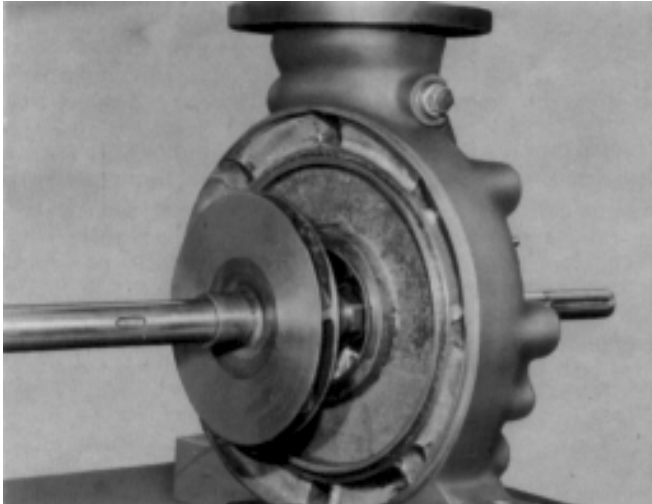

Fig. 41 Removing the shaft together with first stage impeller.
6. When the last stage casing (108) has been dismantled, pull shaft (210) together with last impeller (230), spacer sleeve (525.1) and shaft protection sleeve (524.1) out of the suction casing. (see Fig. 41)